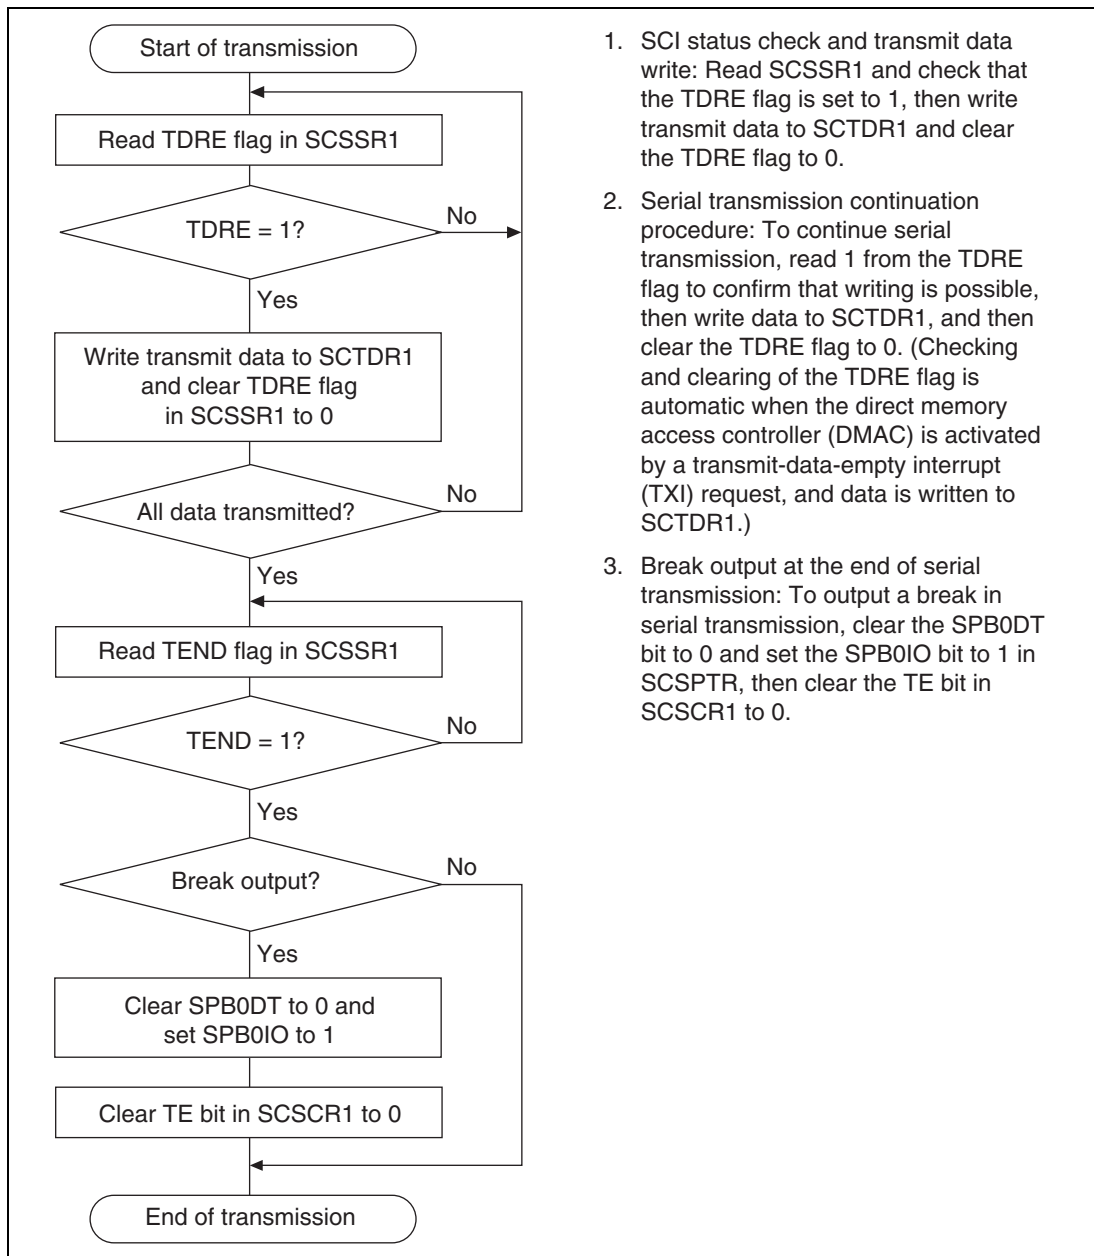

Figure 15.8 Sample Serial Transmission Flowchart
**Serial Data Transmission (Asynchronous Mode):** Figure 15.8 shows a sample flowchart for serial transmission.